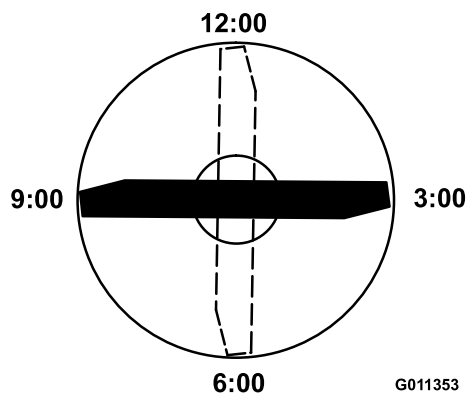

**Figure 63**
4. Position the cutting edge of the marked end of the blade at 12 o'clock (straight ahead in the direction of mowing) (Figure 63) and measure height from table to cutting edge of blade.
5. Rotate the marked end of the blade to the 3 and 9 o'clock positions (Figure 63) and measure the heights.